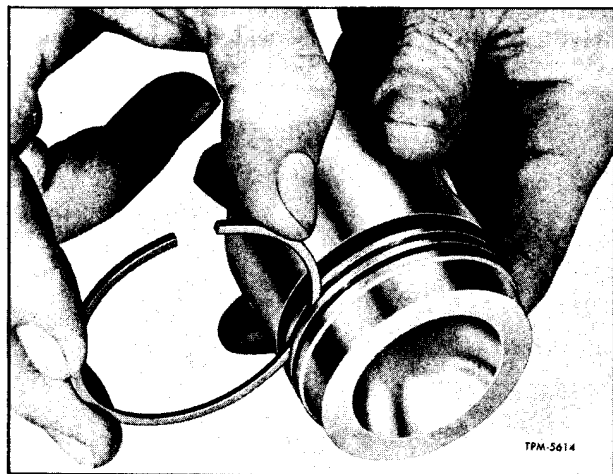

Figure 52—Checking Piston Ring Groove Clearance
5. Check fit of rings in piston ring grooves. Use back edge of ring to check fit (fig. 52). Rings should move freely in piston grooves.